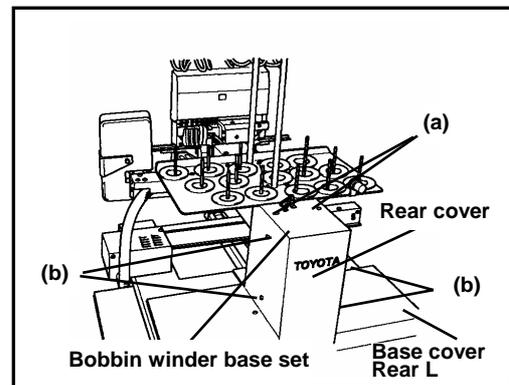

FIG.1
- (1) Remove two setting screws (a) and the bobbin winder base set. (Fig.1)
- (2) Loosen four setting screws (b) and remove the rear cover. (Fig.1)
- (3) Remove two setting screws (c) and the upper shaft sensor set. Then remove two setting screws (d) and the upper shaft sensor. (Figs.1, 2)
- (4) Remove four setting screws and the base cover rear L. (Fig.1)